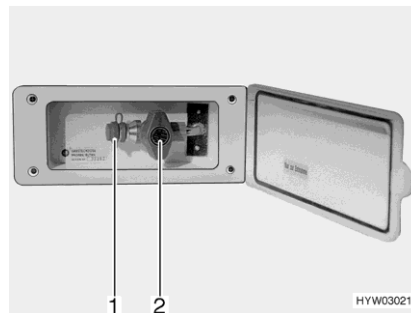

Fig. 128 External gas connection
- Connect the external gas device to the connection point (Fig. 128,1).
- Open the gas isolator tap (Fig. 128,2).